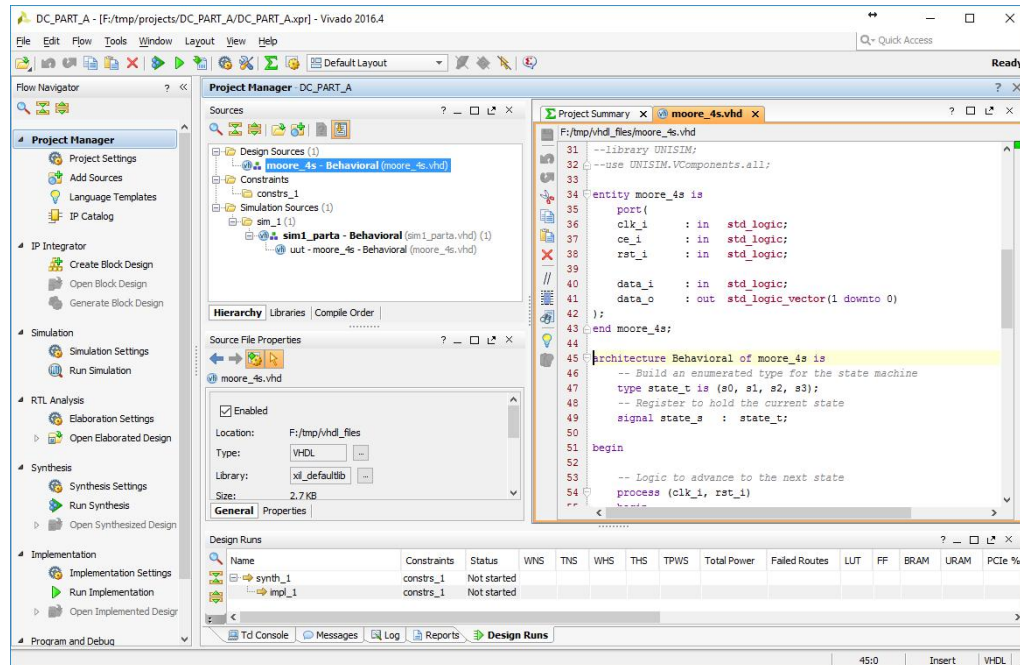

Fig. 2. Opened Vivado project.
2. This command will create a Vivado project and open it as in Fig. 2.